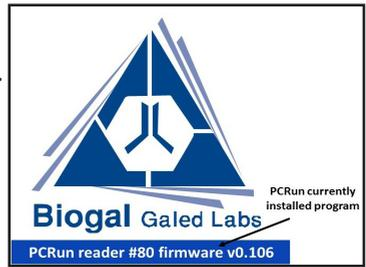

Fig. 3A
1.2 The following display will appear briefly (Fig 3A). The PCRun® Code # and the Firmware that is installed in the reader are located on the bottom of the screen.